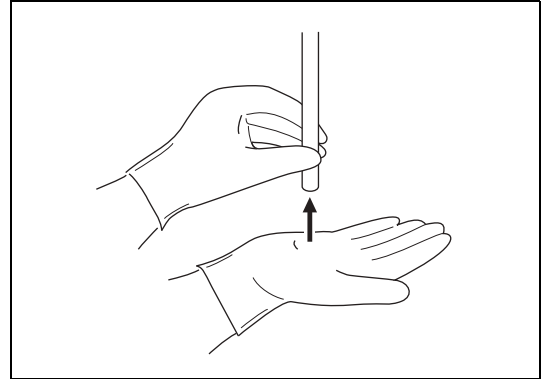

Figure 4.1
- 1 Exercise the endoscope's automatic iris. Bring the tip of the endoscope within 1 cm of the palm of your hand and move it to about 5 cm away from your palm. Watch the image displayed on the monitor to ensure the brightness at both distances is similar. Lift the distal end of the endoscope close to the room lights, and check that the light being emitted from the distal end of the endoscope lowers significantly (dependent on the ambient light levels in the room). Return the distal end of the endoscope to a point on your palm and ensure that the light is being emitted from the distal end of the endoscope. (Refer to Figure 4.1.)